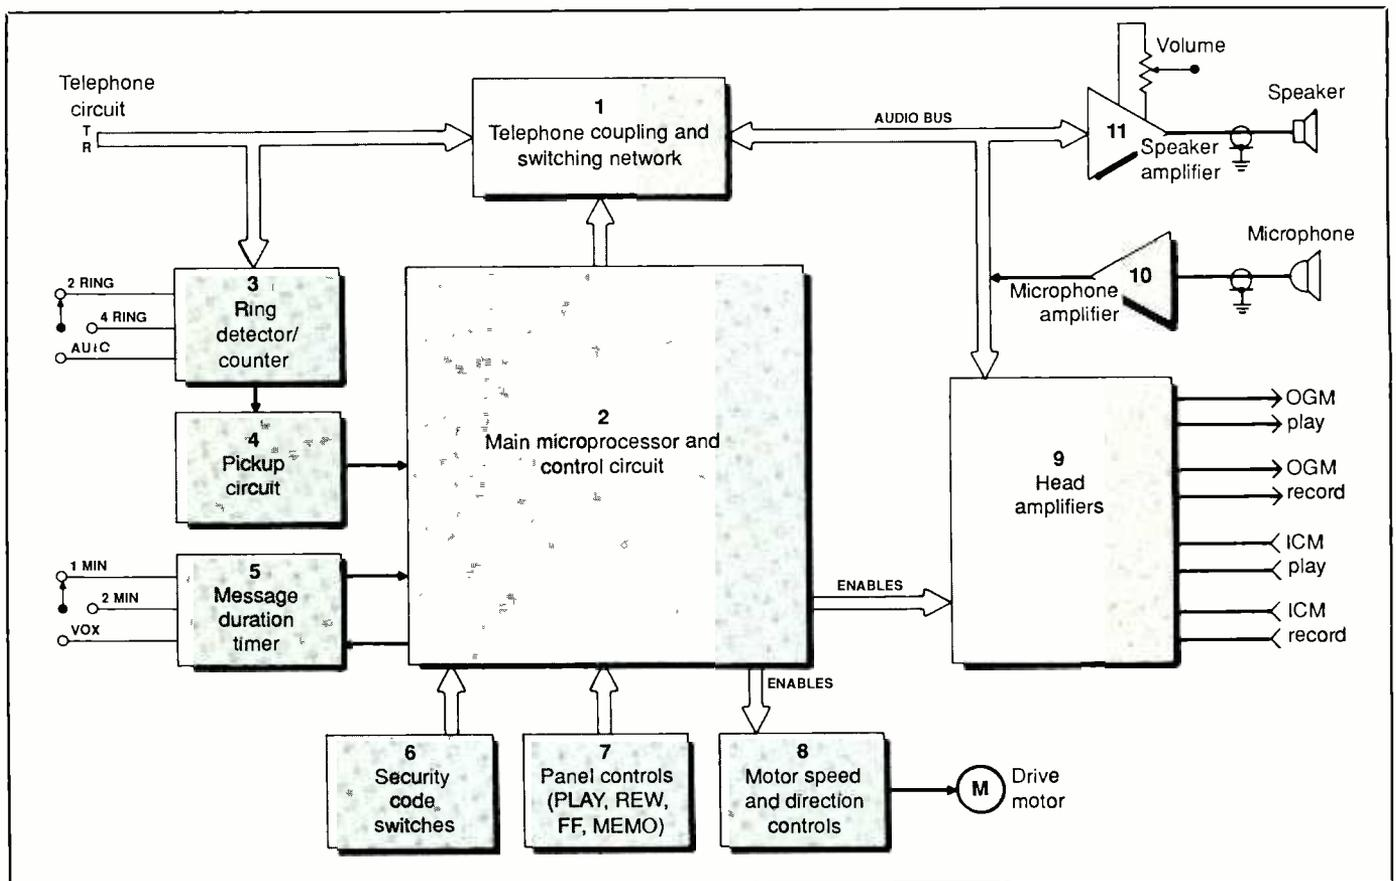
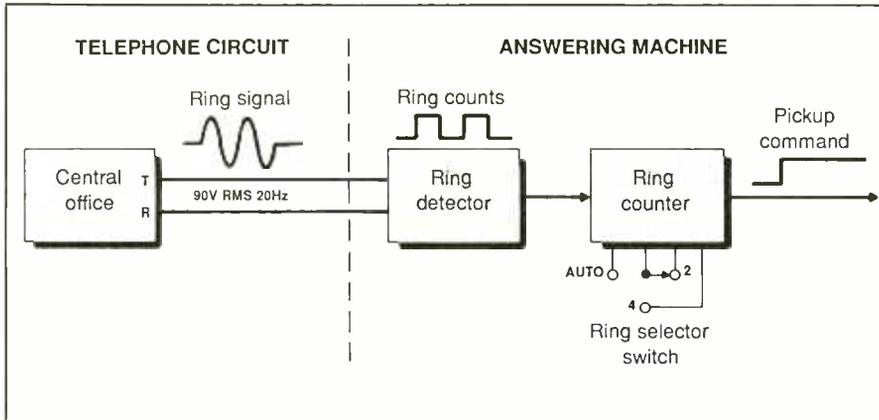

Fig. 1. Block diagram of a simple telephone answering machine.
Fig. 2. Ring signal from Central Office alerts answering machine to pick up line after preset number of rings.
In spite of their small size, answering machines perform a remarkable variety of functions to accomplish their task. A complete block diagram of a simple answering machine is shown in Fig. 1, which details each major function area and identifies it with a
- **Picking Up the Line.** A 90-volt ac 20-Hz ring signal is sent from the telephone company's central office to the called telephone instrument whenever a connection is made to the line to signal an incoming call (Fig. 2). The Ring Counter circuit in the answering machine detects the ring signal and generates a counting pulse for each series of rings. Virtually all machines are equipped with a RING SELECTOR switch that can be set to allow a certain number of ring cycles to pass before it enables the Pickup Circuit (Fig 1). Typical settings for this